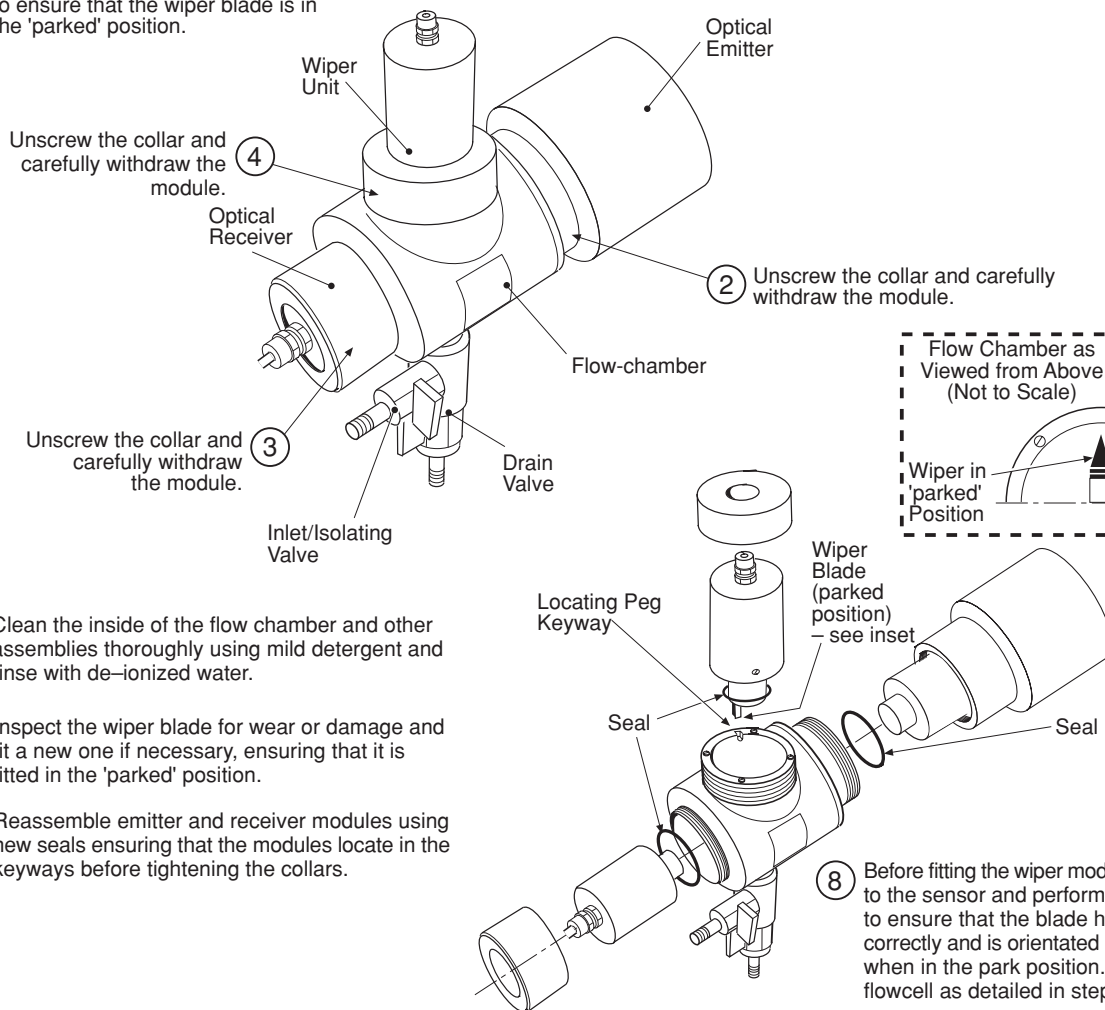

Fig. 6.1 Low Range Sensor – Dismantling the Flowcell for Cleaning
6.2.2 Dismantling the Flowcell for Cleaning and Wiper Maintenance – Figs 6.1 and 6.2
- 3) Follow the procedures in Fig. 6.1 (Low Ranger Sensor) and/or Fig. 6.2 (High Range Sensor) for removing the modules.